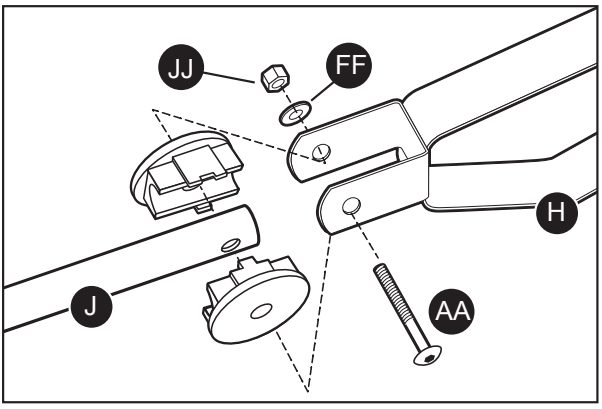

Fig. 11
9. Attach the handle (J) to the yoke on the front axle assembly (H) using the M8 x 60mm internal button head bolt (AA), M8 lock nut (JJ), and M8 washer (FF), as shown in Fig. 11.